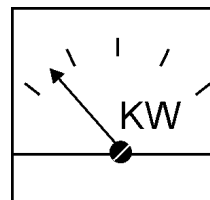

Figure 33. Kilowatt Meter
13. The wattmeter (Figure 33) will indicate zero watts with no load applied. When a load is applied, this meter will indicate the output power of the generator with respect to the applied load.